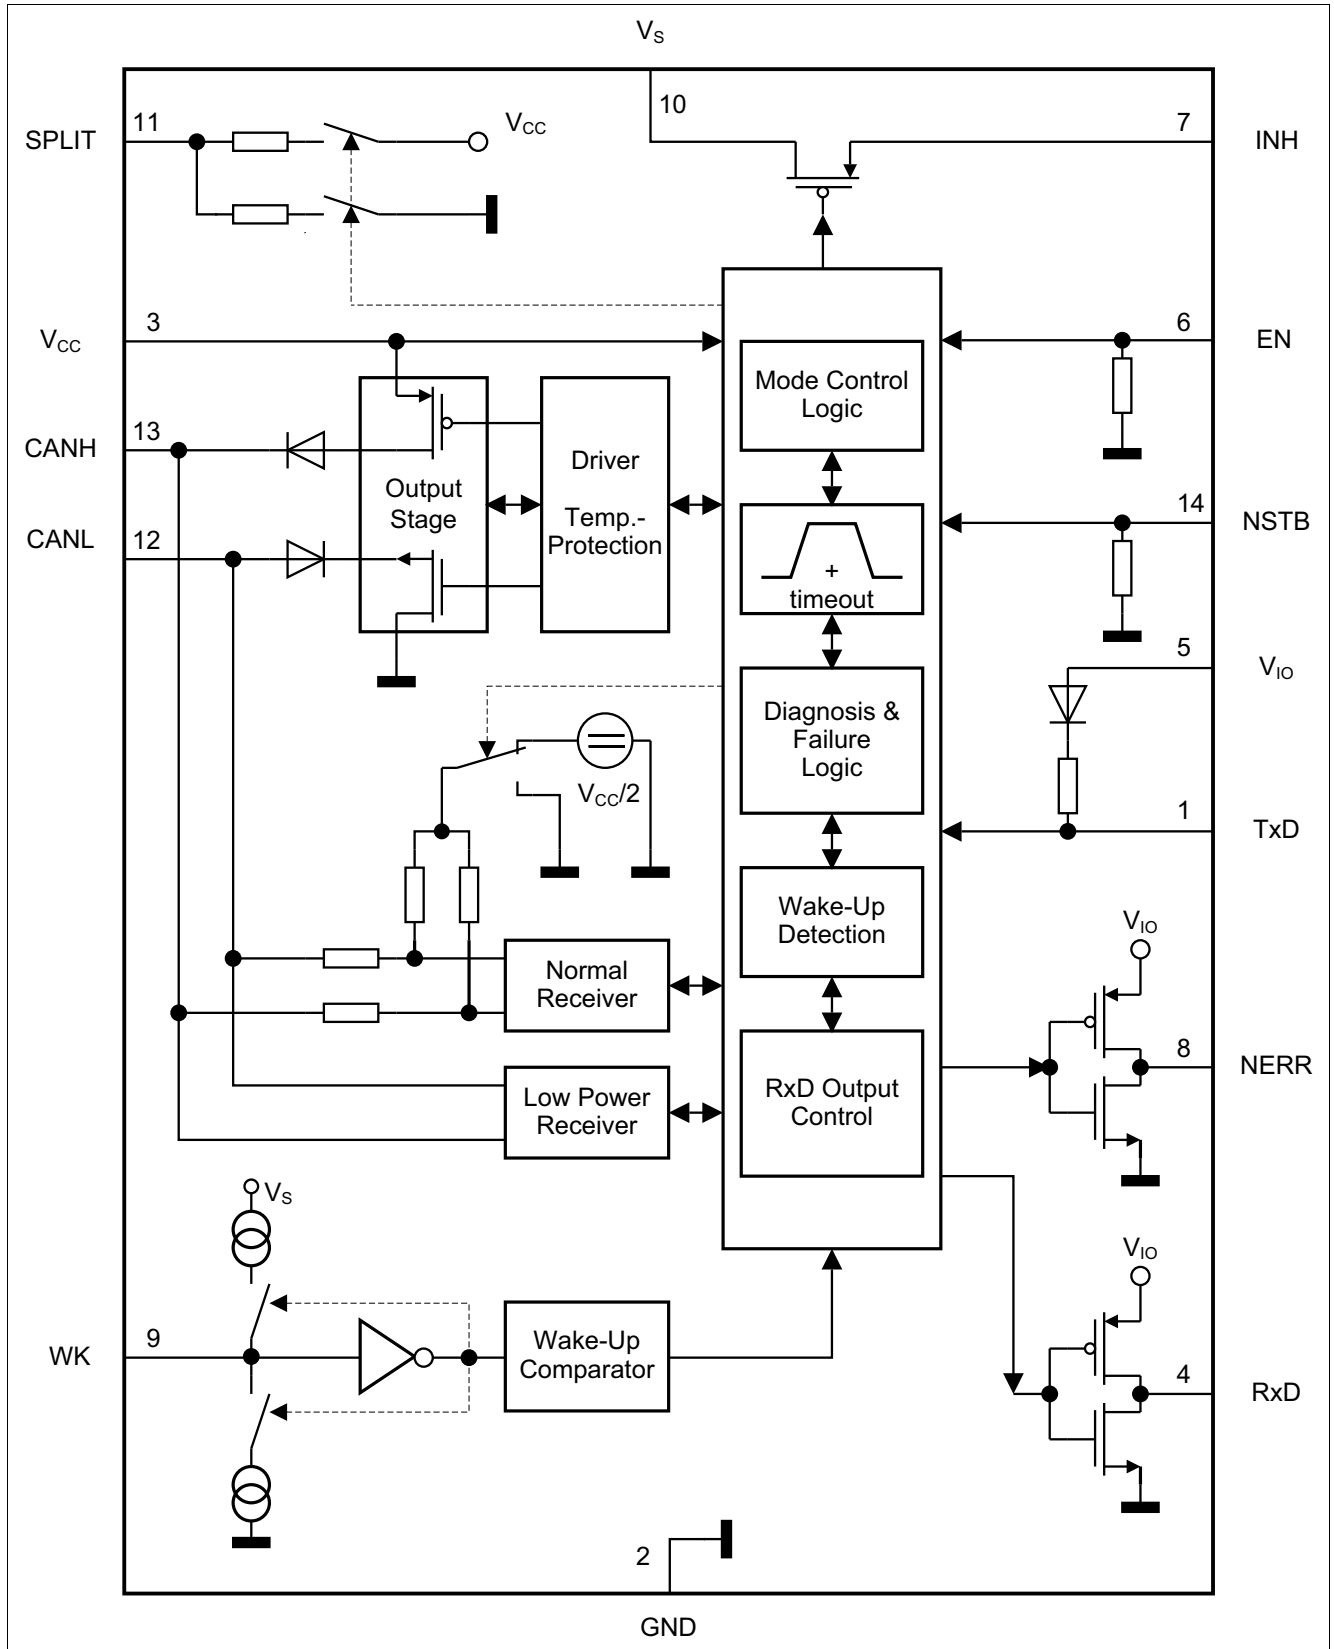
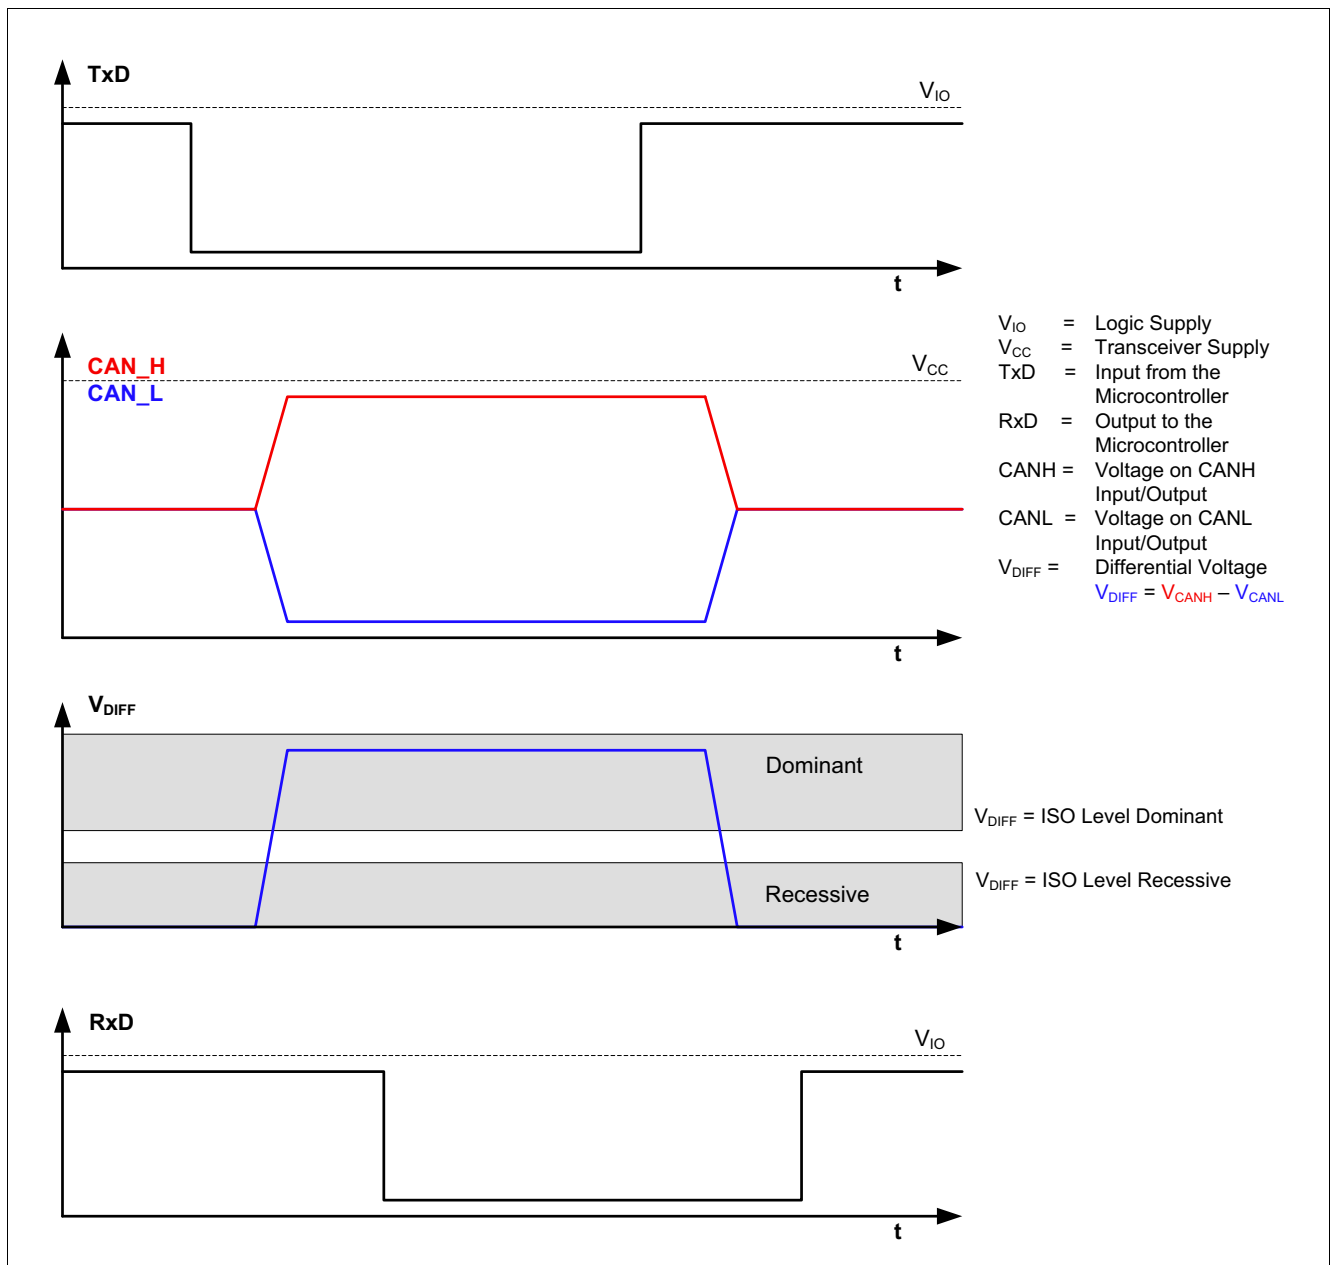

Figure 1 Block Diagram
Figure 3 High Speed CAN Bus Signals and Logic Signals
The TLE6251-2G is a High Speed CAN transceiver, operating as an interface between the CAN controller and the physical bus medium. A **H**igh **S**peed CAN network (abbreviated HS CAN) is a two wire differential network which allows data transmission rates up to 1 MBaud. Characteristic for a HS CAN network are the two CAN bus states “Dominant” and “Recessive” (see **Figure 3**).
The input TxD and the output RxD are connected to the microcontroller of the ECU. As shown in **Figure 1**, the HS CAN transceiver TLE6251-2G has a receive unit and a output stage, allowing the transceiver to send data to the bus medium and monitor the data from the bus medium at the same time. The HS CAN TLE6251-2G converts the serial data stream available on the transmit data input TxD into a differential output signal on CAN bus. The differential output signal is provided by the pins CANH and CANL. The receiver stage of the TLE6251-2G monitors the data on the CAN bus and converts them to a serial data stream on the RxD pin. A logical “Low” signal on the TxD pin creates a “Dominant” signal on the CAN bus, followed by a logical “Low” signal on the RxD pin (see **Figure 3**). The feature, broadcasting data to the CAN bus and listening to the data traffic on the CAN bus simultaneous is essential to support the bit to bit arbitration on CAN networks.
- Through the internal resistors R_1 (see Figure 1), the pins CANH and CANL are connected to GND.